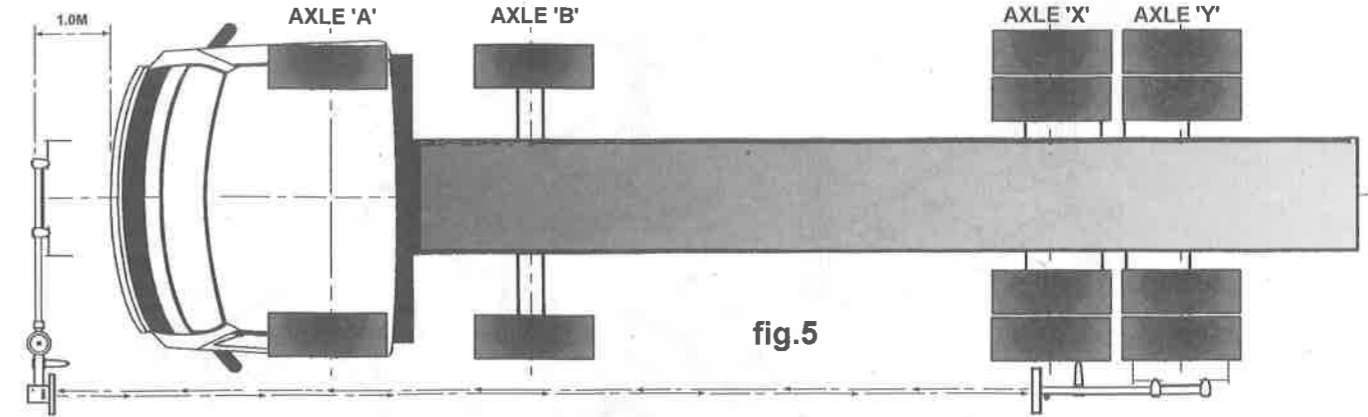

fig.5
- 5.2.1 Check alignment of the two pairs of front axle wheels (A & B in fig.5) in the same way as you would for cars including the calibration procedure. Adjust if required to the manufacturers recommendations or set to parallel.
- 5.2.2 Replace normal mirror unit with the larger GA50/PPL42 mirror unit (see Section 5.2). Place this unit against the last axle (fig.5.Y) with the mirror orientated towards the front of the vehicle.
- 5.2.3 Stand the laser unit on a level floor approximately 1metre ahead of the front bumper with the target plate facing the mirror. This is the set up shown in fig.5. With the pointer at zero, move the laser unit until the beam is visible on the vertical centre line of the target plate.
- 5.2.4 Without moving the laser unit, transfer the mirror unit to the next axle (X in fig.5) and check the reading. This should be identical to axle 'Y'. If not then the rear axles are not parallel and will require adjustment.